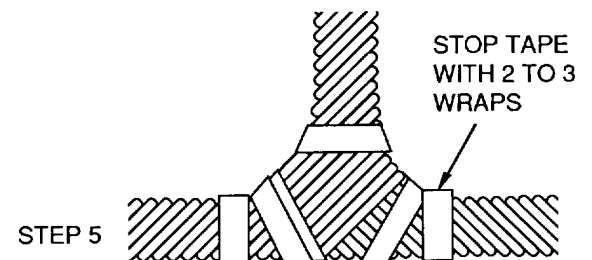

Figure 3. Taping Harness Breakouts
9. **Taping Harness Breakouts.** Taping harness breakouts by performing procedure (Figure 3).